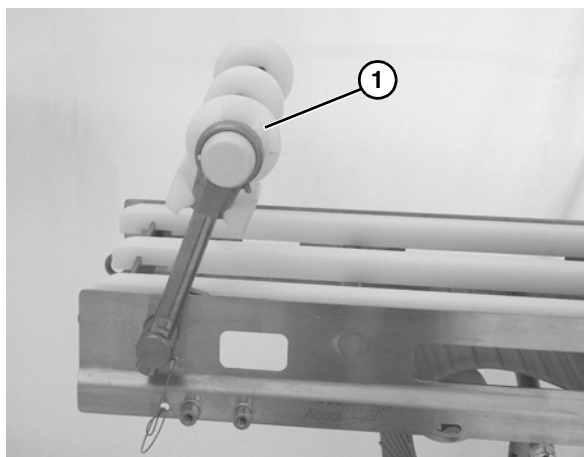

Figure 8
4. Place the idler tail (**Figure 8, item 1**) in the up position.